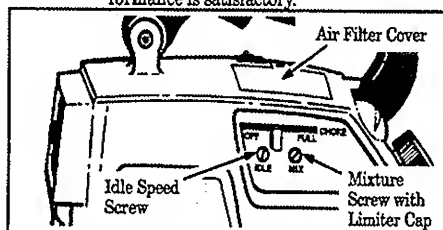

Figure 20
2. Adjust idle speed screw (Figure 20) until engine continues to run without stalling.
2. Turn the mixture screw (Figure 20) counterclockwise until it stops. *Do not attempt to adjust the screw beyond the stops as damage can occur.*